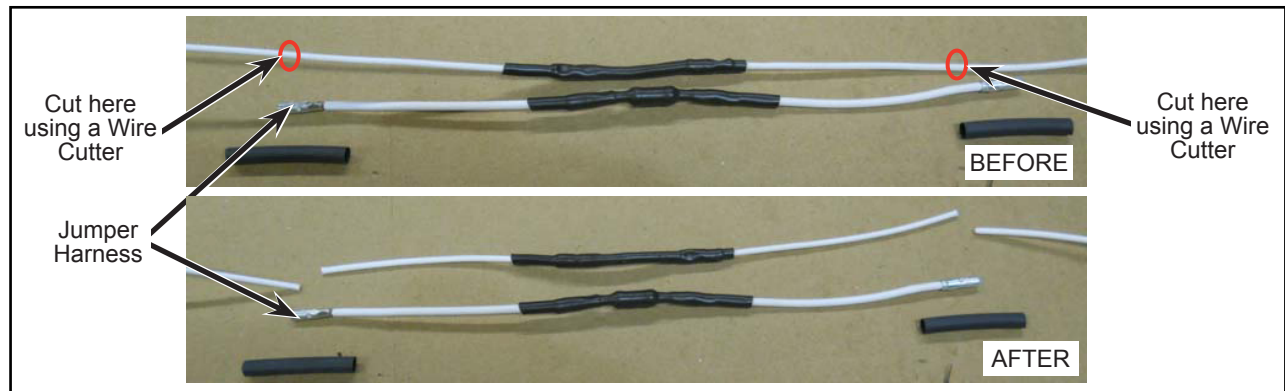

Figure 6 - Typical View of Jumper Harness
- 1.16. Use provided jumper as reference to remove the existing "Valve Control Resistor" (see Figure 6).